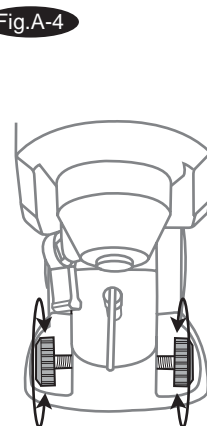

Fig.A-4
8. Without moving the R.A. axis, adjust the azimuth control knobs to bring Polaris to the center of the eyepiece (Fig.A-4). Adjustment in Dec axis using the hand control may be necessary.